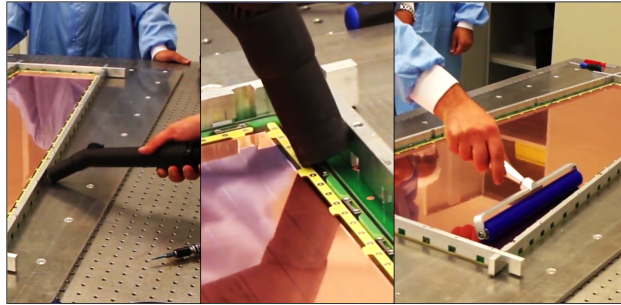

Figure 109: Cleaninig the setup after stretching.
Step 2: Use the vacuum cleaner on the side of the bars to suck up possible dust produced during the stretching and carefully vacuum the gap between the stack and the bars. Use the static roll to gently clean the top surface of the foil one more time (Fig. 109).